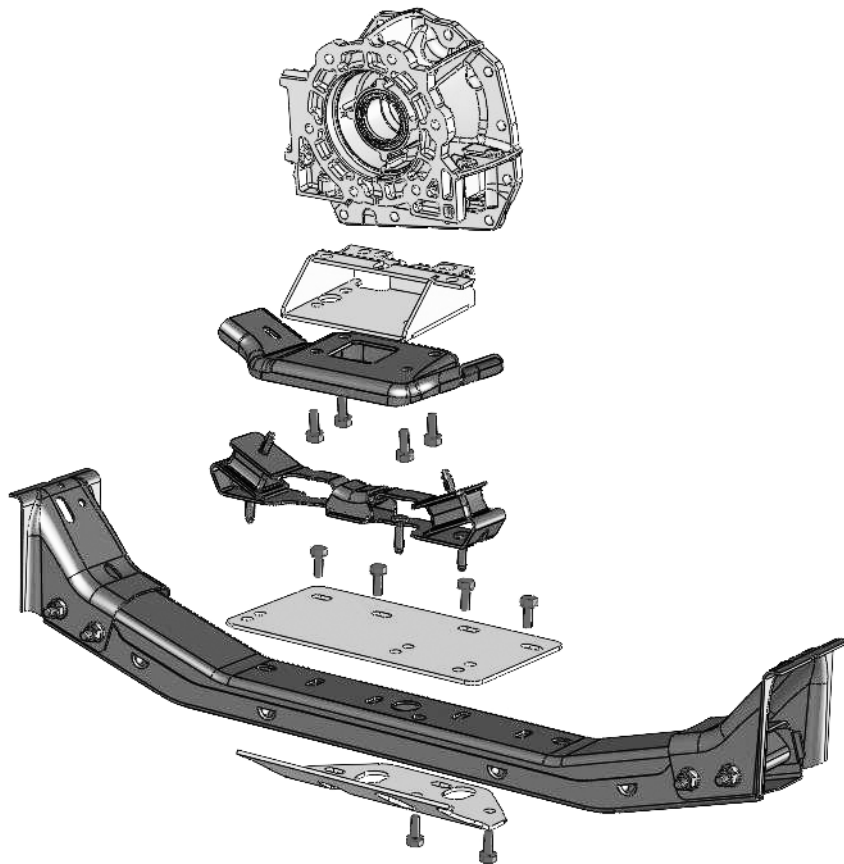

Fig. 3
4. Weld top and bottom plates as shown (Figure 3.)